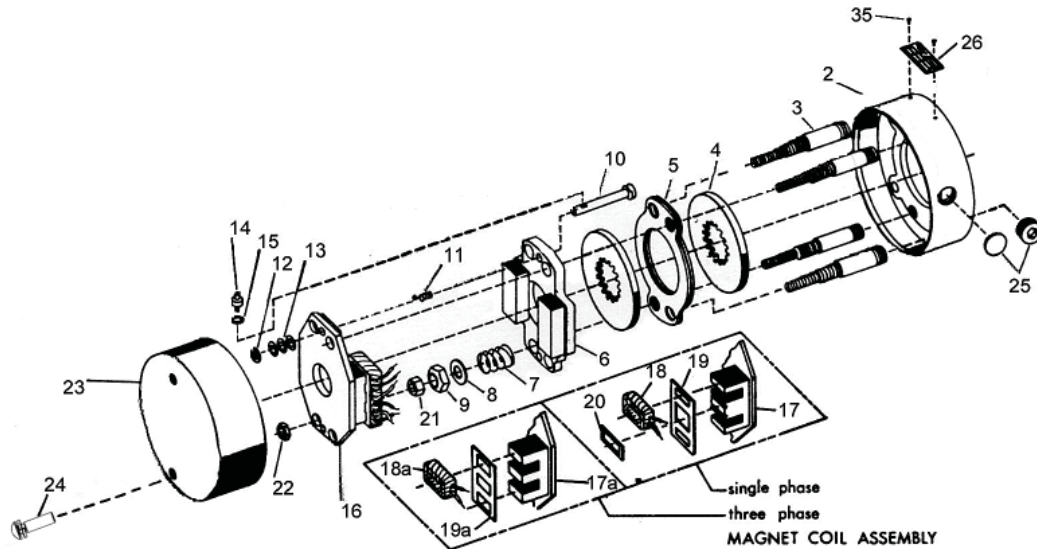

Figure 3. Exploded View of Brake
(See Figures 3, & 5, Tables 2 & 3)
2. Remove cover screws (24) and cover (23).
4. Bolt brake to motor "C" face with four socket head cap screws. See Figure 3 to determine bolt length.
(See Figures 3 & 5)
(See Figures 3 & 5, Table 2)
(See Figure 3)
When assembling a standard manual release mechanism (Figure 3), add only enough shim washers (13) to obtain proper release action. Too many shim washers will prevent automatic reset when electrical power is applied. Too few washers will prevent the motor shaft from turning freely. Replace stop screws (14). Wind each torsion spring (11) approximately $1/4$ turn and hook spring loop over pin.
(See Figures 3 & 4)